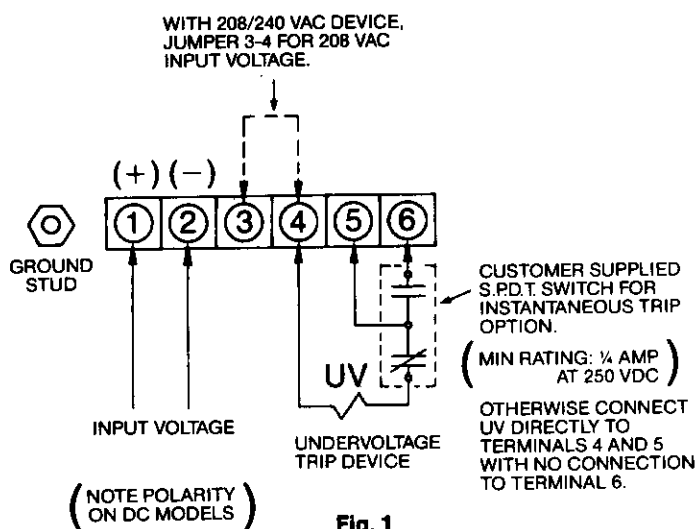

Fig. 1
The 240V ac static time delay device can be operated at 208V ac by connecting together terminals 3 and 4, Figure 1.
To provide this function (refer to figures 1 and 3), connect a single-pole double-throw switch with its common terminal connected to terminal 5, its normally open contact to terminal 6 and its normally closed contact to the UV device as shown in the schematic diagram (See dash lines).
3. Wire the device as shown in figure 1. Recommended fusing is 0.5A slo-blo. It is also recommended that the static time delay box be grounded. A #6-32 ground stud is provided adjacent to terminal 1.